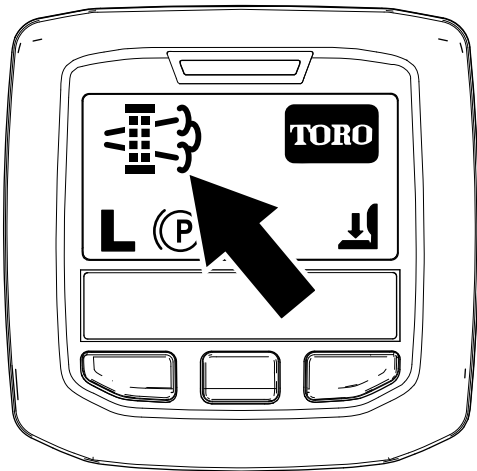

Figure 50
- When the engine computer requests either a parked regeneration or a recovery regeneration, the regeneration request icon (Figure 50) displays in the InfoCenter.